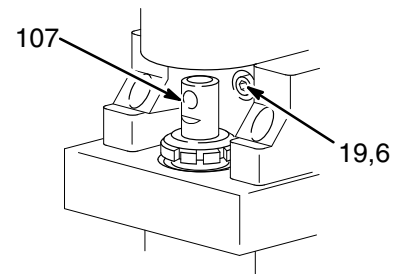
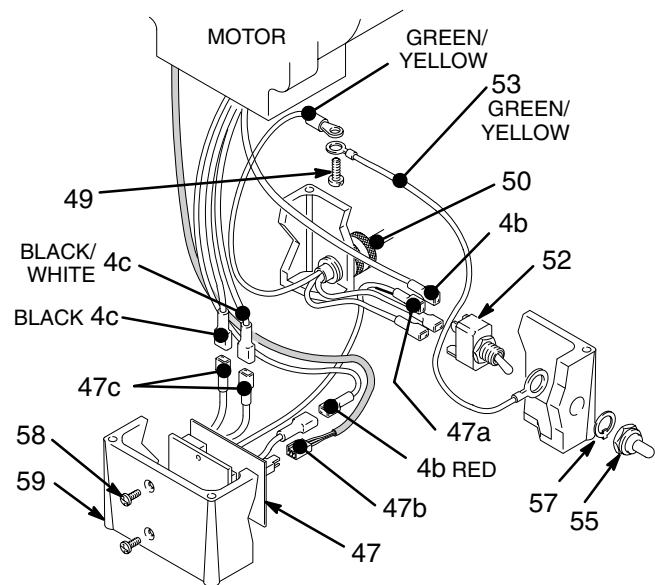

Fig. 19
Fig. 21
3. Remove the screws (56) and lower the junction box (59). Disconnect the motor wires and the pressure control wire (A) from the motor start board. Refer to Fig. 21 on page 24.
4. Remove the front cover (13).
5. Turn the displacement pump rod (107) so the pin hole aligns with the bottom drive housing screw (19). See Fig. 19. Remove the three drive housing screws and lockwashers (19,6). Also see Fig. 20.
6. Remove the two motor screws (5) and the lock washers (6).
7. Tap the lower rear of the drive housing (11) with a plastic mallet to loosen the motor. Pull the drive housing straight off the motor while guiding the harness (A) from the motor. Do not allow the gear (16) to fall. Read the CAUTION on page 25.
8. Remove the two screws (46) and lift the motor off the base (66).
9. Align the new motor with the base and reinstall the screws (46).
11. Connect the wires in the junction box. Refer to Fig. 21 on page 24. Install the junction box.
12. Connect the piston rod (107) to the drive housing; see page 22, **Installing the Pump**, Step 2 and the **WARNING** following it.
NOTE: See Fig. 21 for this procedure.